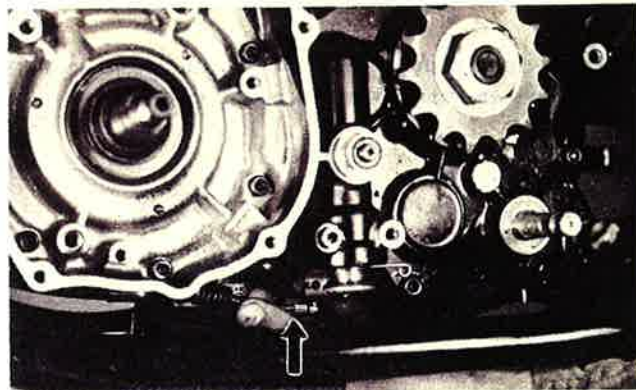

Fig. 3-1-13
8. Remove clutch wire at handle lever first and then at clutch push lever on bottom of engine. (Fig. 3-1-13)